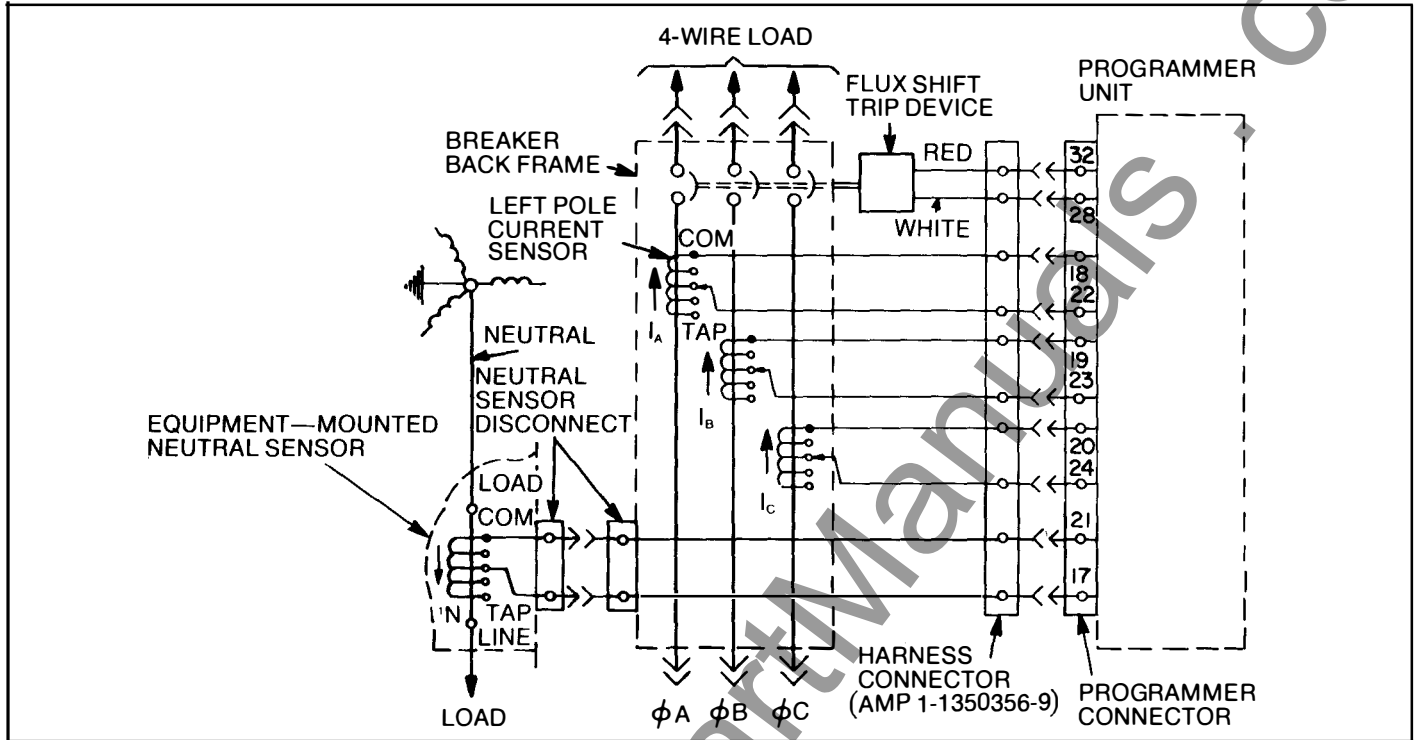

Fig. 6-4. Cabling diagram — MicroVersaTrip™ with ground fault on 4-wire load-breaker reverse feed
- C. If the breaker's lower studs connect to the supply source, then the neutral sensor must have its LOAD end connected to the source. See Fig. 6-4.